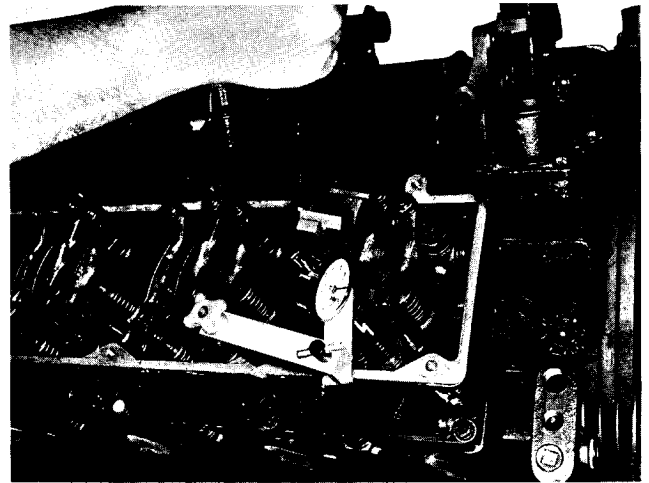

Fig. 2-39, (V514128). Bottoming injector plunger in cup — V-903
4. Using ST-1251 Rocker Lever Actuator, bottom injector plunger, check zero (0) setting. Fig. 2-39. Allow plunger to rise slowly, indicator must show plunger travel to be within range specified in Table 2-8.